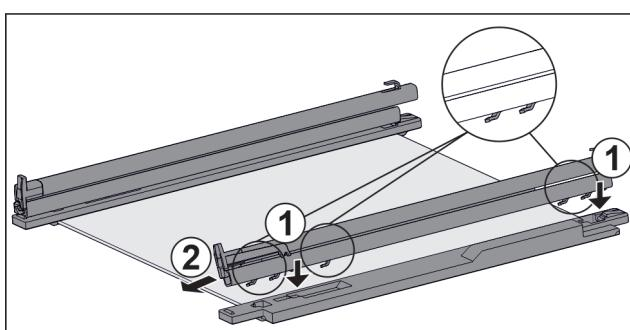

Fig. 121 Glass shelf with rails and retaining parts
- Place rail hooks onto the openings of the **left** retaining part. *Fig. 121 (1)*
- Push rail forwards. *Fig. 121 (2)*
- Place rail hooks onto the openings of the **right** retaining part. *Fig. 121 (1)*